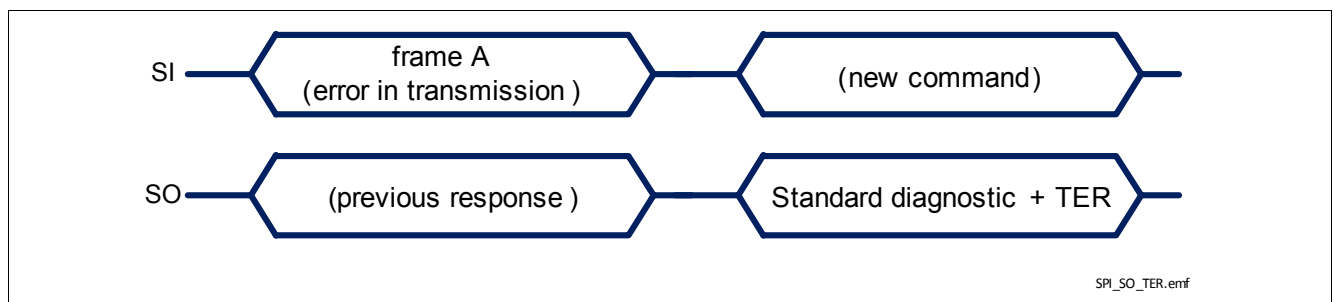

Figure 33 BTS56033-LBB response after an error in transmission
- in case an error in transmission happened during the previous frame (for instance, the clock pulses were not multiple of 8), shown in Figure 33